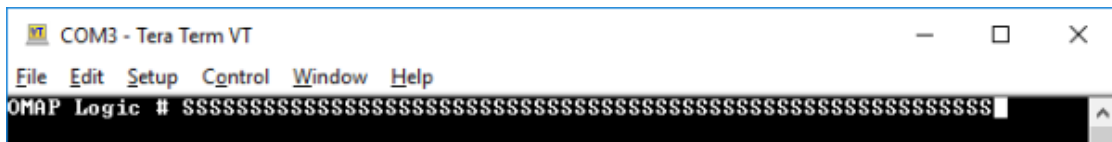

Figure 4: Shift+S in Tera Term
- The terminal window is shown in Figure 4 Immediately after entering the U-Boot console. The 3000-OEM uboot prompt is: SLA3000#